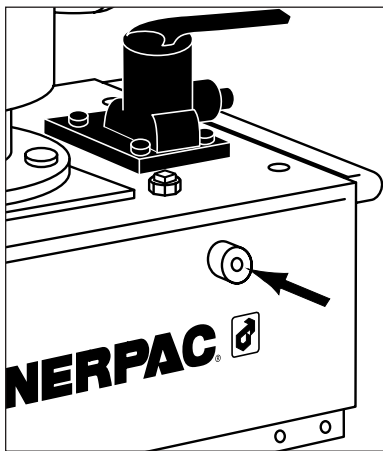

Figure 16
3. Remove the plug from the side of the reservoir (see Figure 16). Insert a 3/16 inch hex wrench in the adjusting screw, located inside the plug opening. Shift the valve and build pressure in the system. Turn the adjusting screw counter-clockwise to decrease pressure and clockwise to increase pressure.